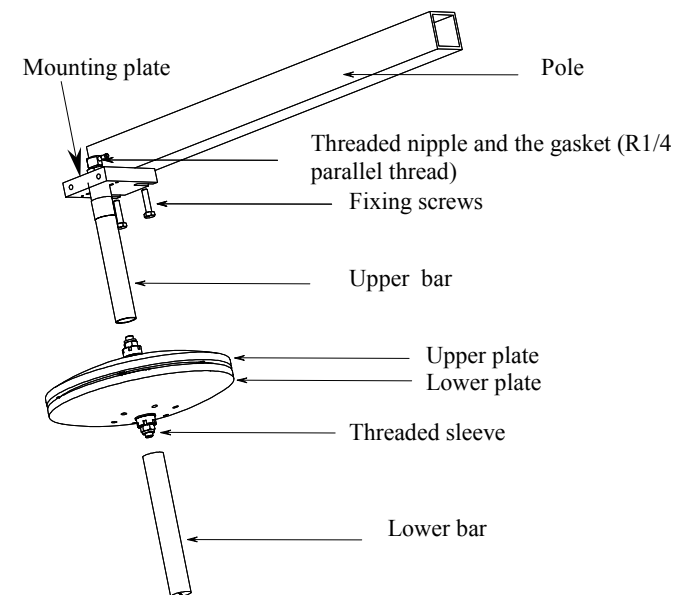

Figure 1. SPH10 Static Pressure Head.
1. Loosen the two fixing screws of the pole and fix the SPH10 into the pole as indicated in Figure 1.
1. Detach the threaded nipple and the gasket (see figure 1).
Connect the barometer to the threaded nipple (figure 1) by using a plastic tube with an inner diameter of 4 mm.